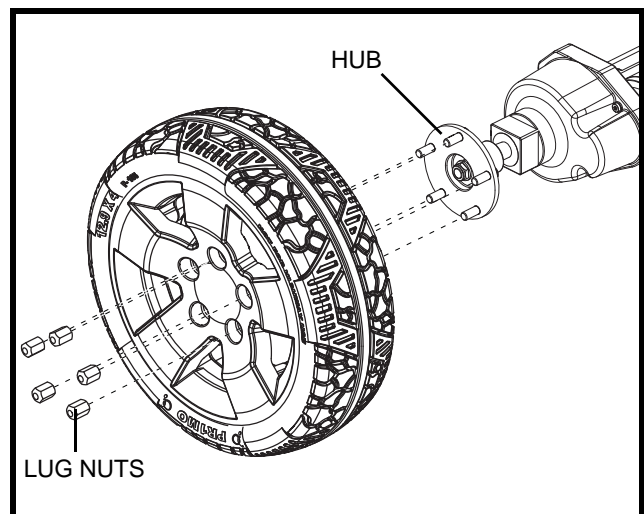

Figure 23. Solid Tyre Wheel Removal
3. Remove the lug nuts. **See figure 23.**